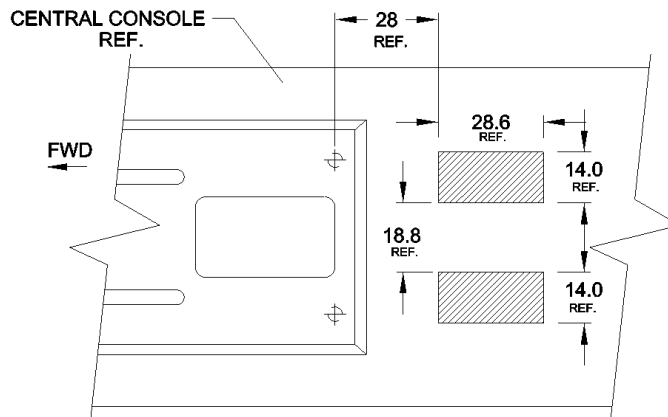

Figure 1:
- 10.6 Drill and cut out the mounting holes for the two rocker switches in the center console as shown on Figure 1.